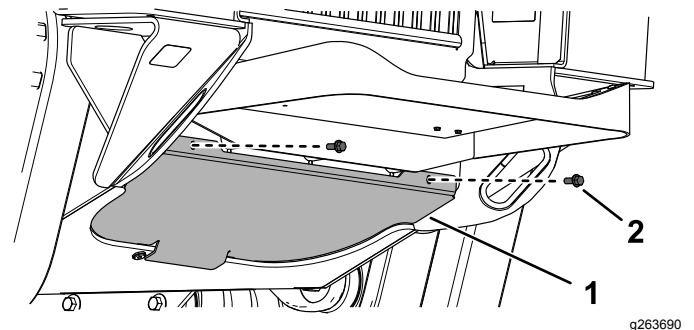

Figure 41
1. Remove the 2 bolts securing the bottom plate (Figure 41).